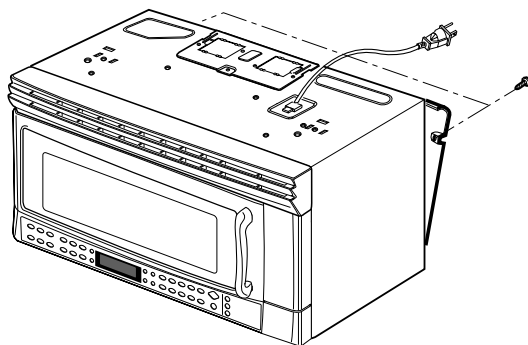

Figure 20
- (1) Remove the mounting plate by loosening mounting plate screws (1 or 2 screws) securing it to the back plate. (See Figure 20)